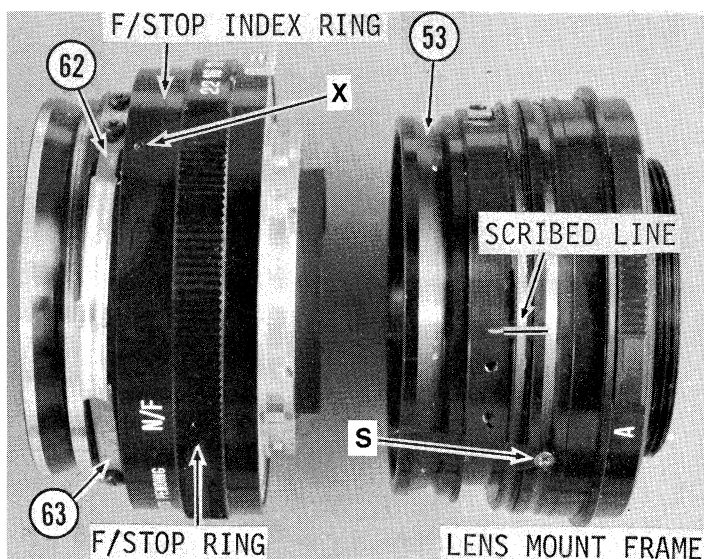

Fig. 32
- 5.1.1.1 Remove Latch Spring (62) and Latch Spring Booster Spring (63). (Fig. 32)
- 5.1.2.11 Replace Washer (154), Circlip ("E" Ring) (153). Replace three screws (S) to attach Lens Mount Ring to Lens Mount Assembly. (Figs. 32 and 33)
- 5.1.2.15 Replace Latch Spring Booster Spring (63) followed by Latch Spring (62). (Fig. 32)
- 5.2.1.1 Remove Latch Spring (62) and Latch Spring Booster Spring (63). Loosen three setscrews (X) in F/Stop Index Ring and remove it. (Fig. 32)
- 5.2.1.2 Remove F/Stop Ring. (Fig. 32)
- 5.2.1.3 Scribe a reference line across juncture of Lens Mount Ring (53) and Lens Mount Frame. (Fig. 32)
- 5.2.1.4 Remove six screws (S) which attach Lens Mount Ring to Lens Mount Frame. Separate Ring from Frame. (Fig. 32)
- 5.3.1.1 Remove Latch Spring (62) and Latch Spring Booster Spring (63). Loosen Three setscrews (X) in F/Stop Index Ring and remove it. (Fig. 32)
- 5.3.1.2 Remove F/Stop Ring. (Fig. 32)
- 5.3.1.3 Scribe a reference line across juncture of Lens Mount Ring (53) and Lens Mount Frame. (Fig. 32)
- 5.3.1.4 Remove six screws (S) which attach Lens Mount Ring to Lens Mount Frame. Separate Ring from Frame. (Fig. 32)
- 5.4.1.1 Remove Latch Spring (62) and Latch Spring Booster Spring (63). Loosen three setscrews (X) in F/Stop Index Ring and remove it. (Fig. 32)
- 5.4.1.2 Remove F/Stop Ring. (Fig. 32)
- 5.4.1.3 Scribe a reference line across juncture of Lens Mount Ring (53) and Lens Mount Frame. (Fig. 32)
- 5.4.1.4 Remove six screws (S) which attach Lens Mount Ring to Lens Mount Frame. Separate Ring from Frame. (Fig. 32)